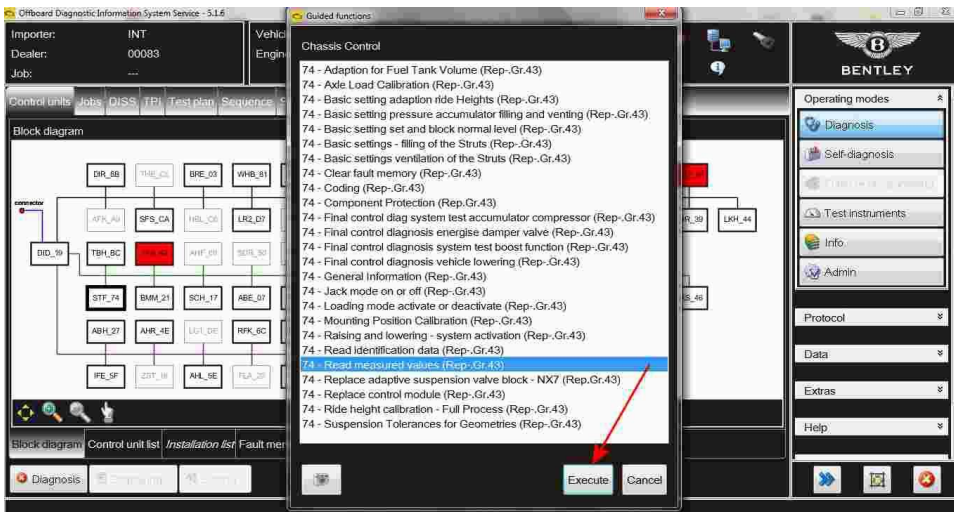

Figure 3
- Select Read measured values (Figure 3)